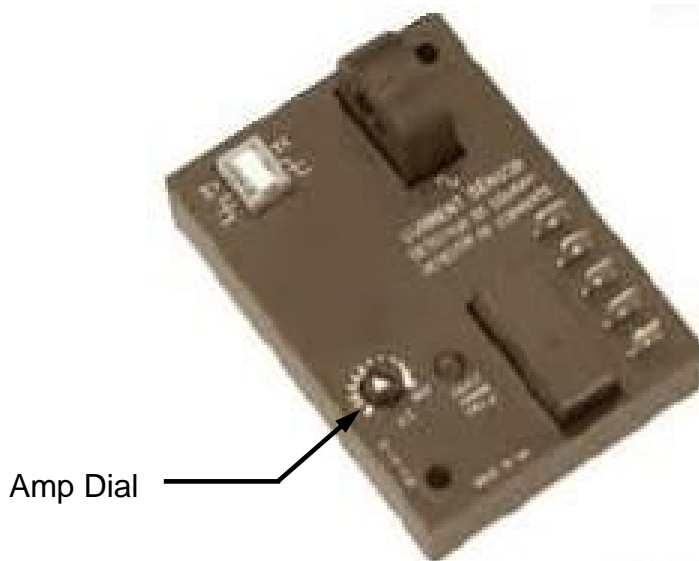

Figure 35 ECS Enclosure
Q. ELECTRICAL CURRENT SENSOR (ECS) with TRIP RELAY (Reference Fig.35)